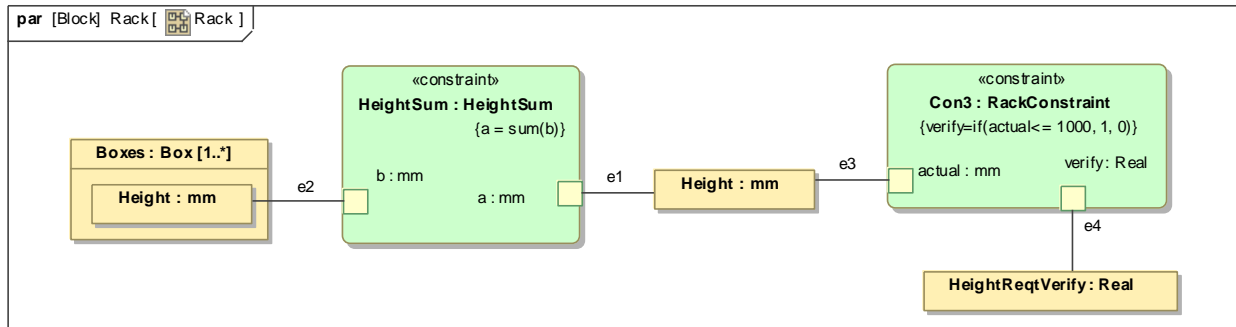

Figure 9.5 Parametric diagram for Rack
5. Inside the Containment tree, create three constraint blocks to sum over **Height**, in the case of **Rack**, and **Speed** and **Storage**, in the case of **Cell**. The contents of the constraint blocks **HeightSum**, **SpeedSum**, and **StoreSum**, are shown in the two parametric diagrams shown in Figure 9.5 and 9.6.
6. Create a SysML Parametric diagram to define and display the relationships inside **Rack** (Figure 9.5). Note that the part property **Boxes:Box[1..*]** represents all boxes belonging to that rack and the constraint property **HeightSum** adds the heights of each of those boxes to calculate a total height for all boxes in the rack, even though the number of boxes has not been specified at this stage. The second constraint property in the diagram, **Con3**, compares the actual total height (in mm) to 1000 and returns a Boolean value, 1 if less than or equal to 1000 (requirement passed) and 0 if greater than 1000 (requirement failed).